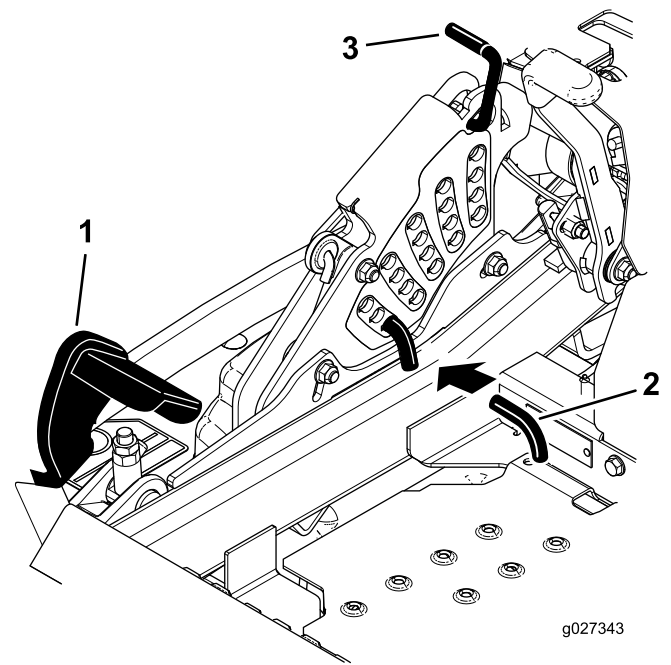

Figure 96
5. Push the deck-lift pedal all the way forward and the deck latches at the 14 cm (5-1/2 inches) transport position (Figure 96).